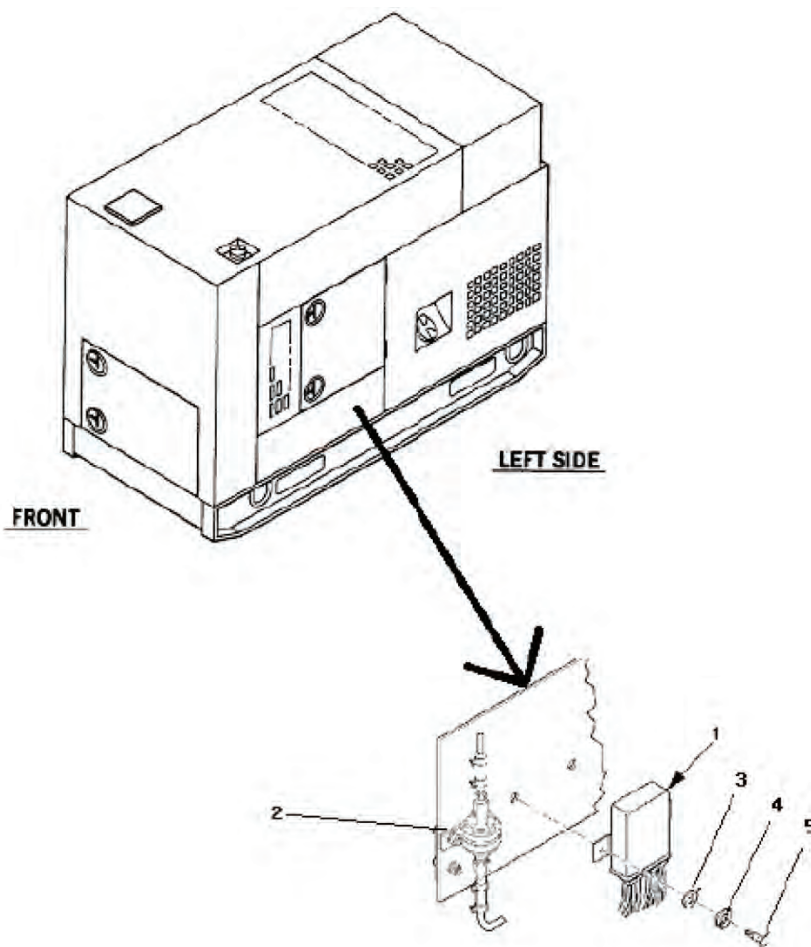

Figure 5. Control Unit Assembly.
- f. Install control unit (Figure 5, Item 1) and fuel pump (2) on the outside of the output box using existing hardware: flat washer (3), lockwasher (4), and bolt (5). Fuel pump electrical connections will be on top, which is the output line to the heater.